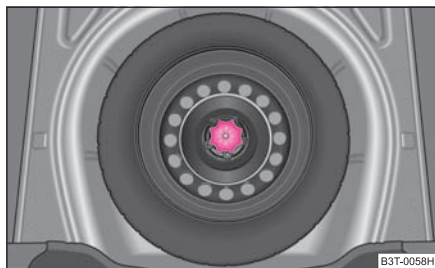

Fig. 201 Luggage compartment: Spare wheel
The spare wheel lies in a well under the floor covering of the luggage compartment and is fixed in place using special screws ⇒ fig. 201.
- Stow and attach the replaced wheel in the spare wheel well using the special screw ⇒ page 231, fig. 201.